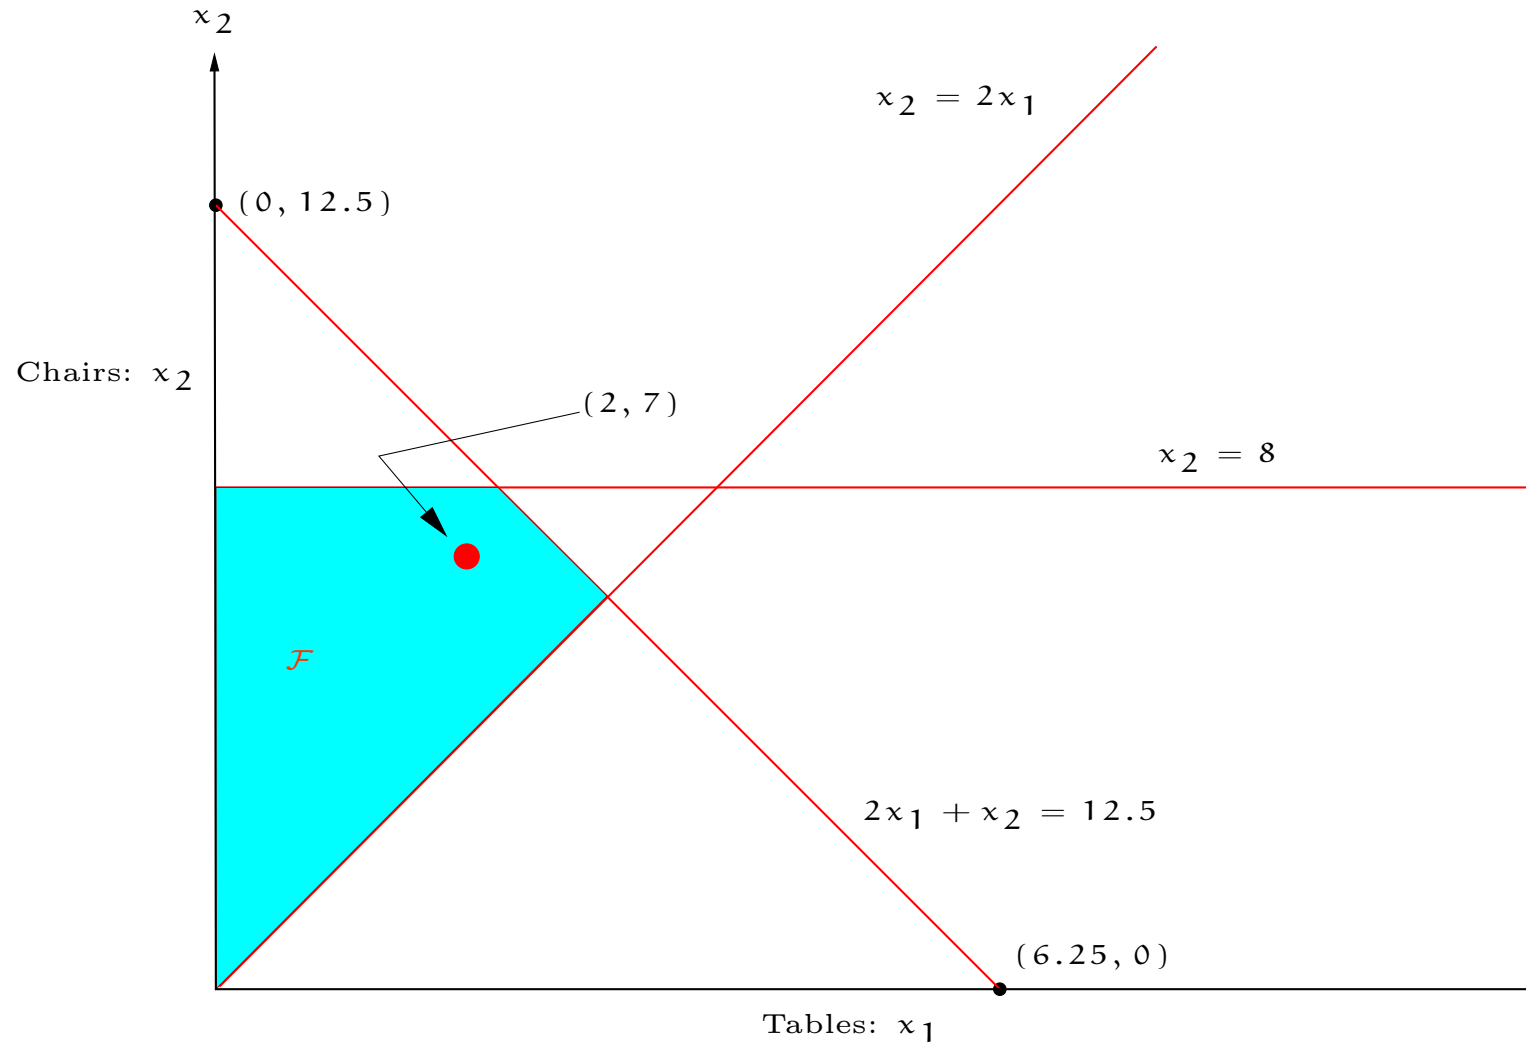

Figure 1: Feasible Set for the T&C Corp Problem
- How would the diagram in Fig. 1 change?
- ★ Production plans for the T&C Corp problem are shown in Figure 1.
- ★ For example, picking $x_1 = 2$ and $x_2 = 7$ (the **red** dot in Fig 1) satisfies all the constraints and yields a revenue of $z = \text{€}145$.